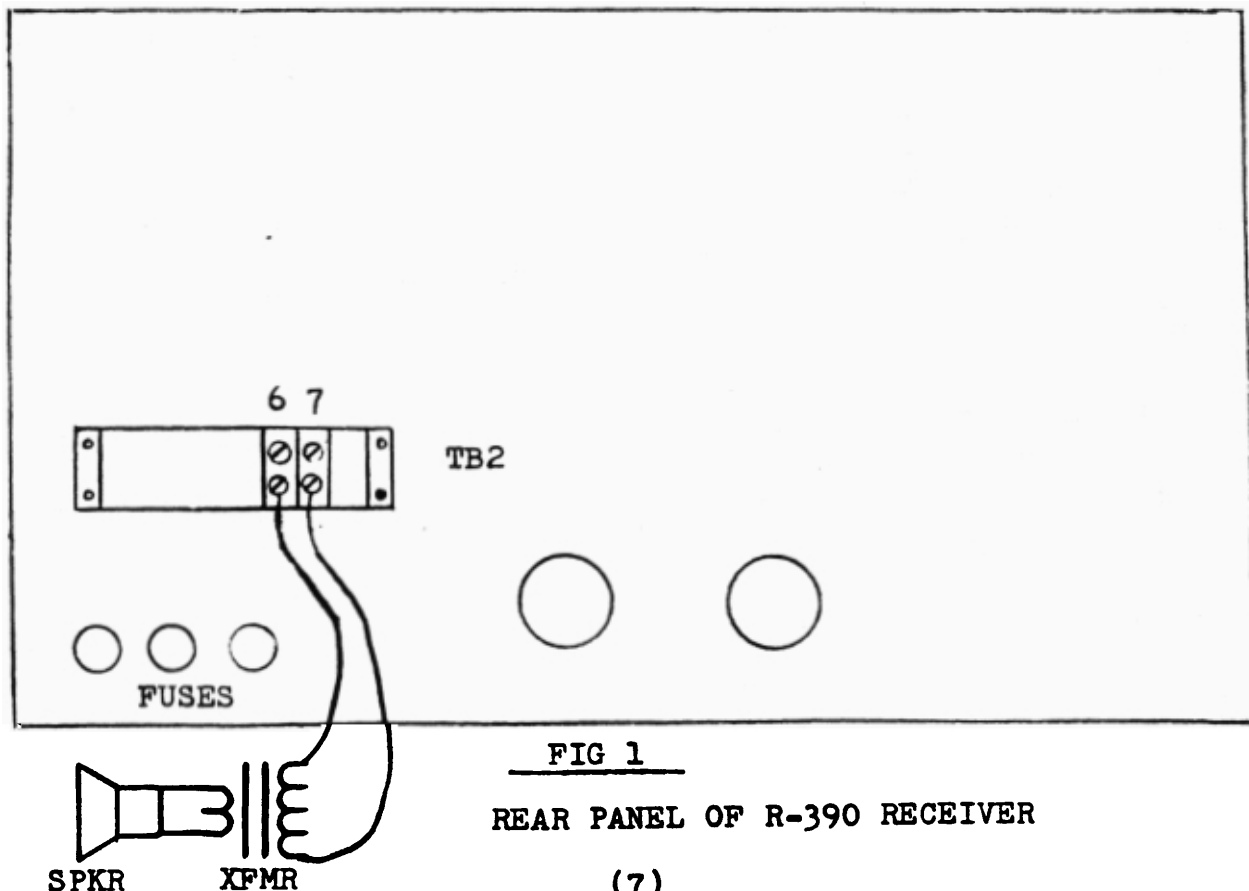

FIG 1
Radio Shack (TM) stores offer a 70V Line Transformer stock number 32-1031 for under \$5.00 which works very well. It's secondary is tapped for 4/8/16 ohms and has solder lug terminals. Connect the high impedance primary of the transformer to TB2-6 and TB2-7 located on the rear panel of the receiver. Refer to Fig. 1 for proper connections.